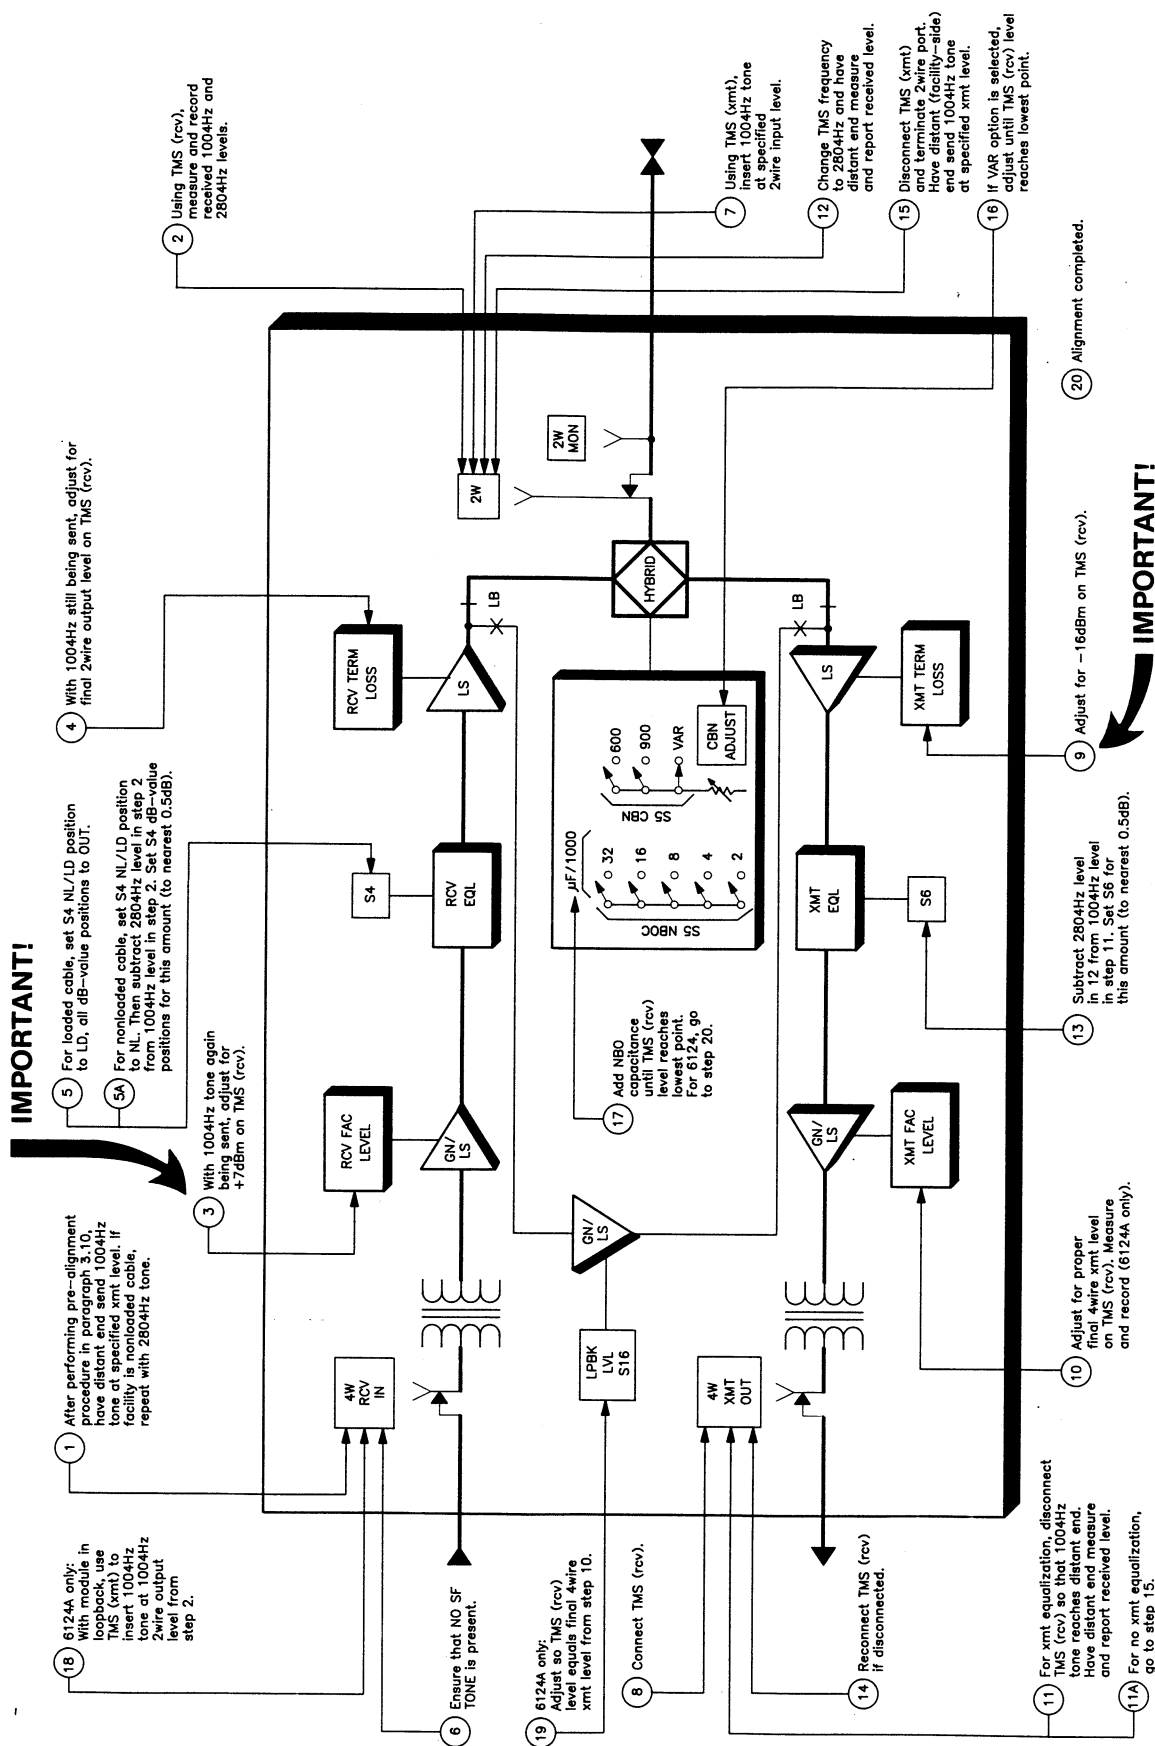

figure 9. Non-prescription alignment procedure for 6124/A
Important: During alignment, set these switches to achieve a +7dBm level (see figure 9) before setting rcv term loss switches to obtain final rcv output level.
Important: During alignment, set these switches to achieve a -16dBm level (see figure 9) before setting xmt fac level switches to obtain final xmt output level.
3.11 Align the 6124/A as directed in the **non-prescription alignment procedure**, figure 9 of this practice.
**Note 1:** The procedure in figure 9 is based on the assumption that certain required local input and output levels are available from circuit records. If this is not the case, some steps may have to be modified to include end-to-end measurements.